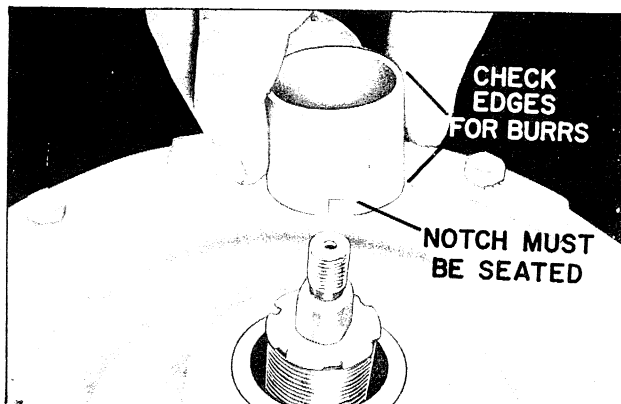

Figure 110
5. Remove the seal tube by pulling it straight off, *Figure 110*.
Check the edges of the replacement tube for burrs left by machining or caused by hauling to prevent damage to the seal lips when inserting the tube. Insert the tube through the bearing frame seal and rotate it until the notches seat properly, *Figure 110*.